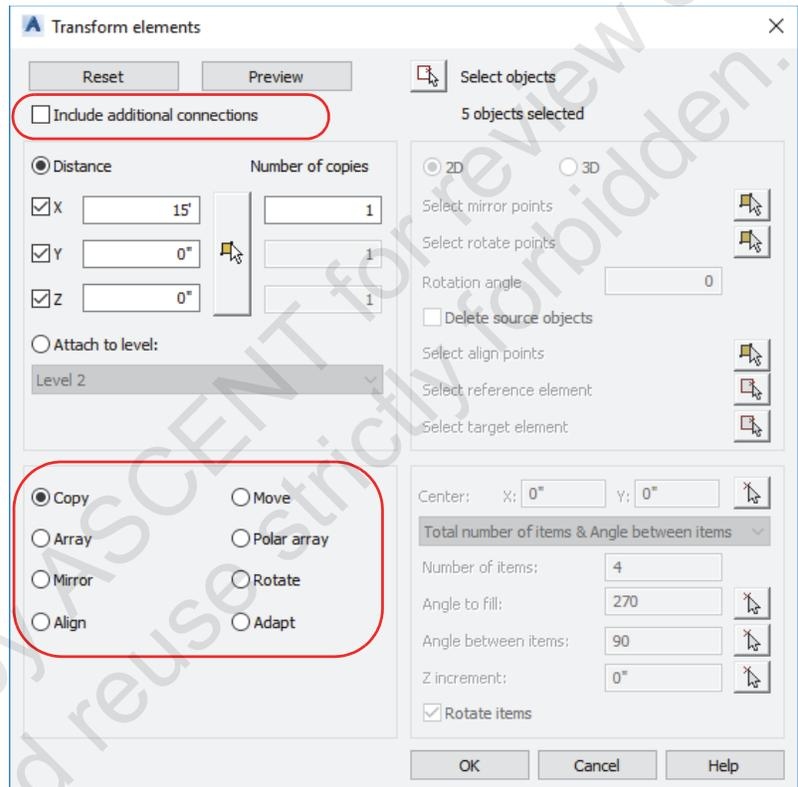

Figure 1–60
- If you want to include the relationships between connected objects (such as a base plate on the bottom of a column), select **Include additional connections**, as shown in Figure 1–60.
4. Select the type of command you want to use, as shown in the red box in Figure 1–60, above.